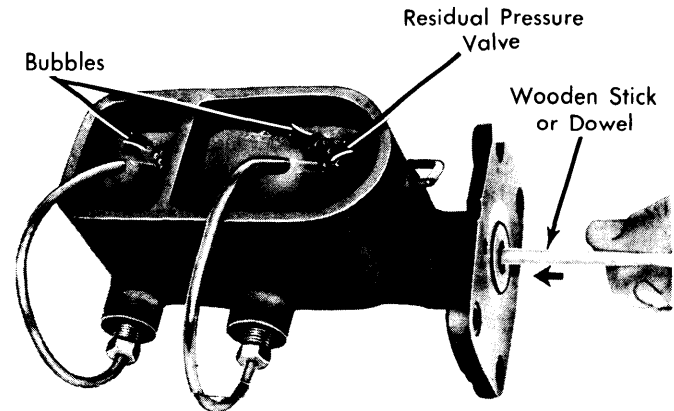

Fig. 1 Bleeding Master Cylinder (Bleeding Tubes Installed)
2) Place master cylinder level in a vise. Attach bleeding tubes to cylinder. Fill reservoirs with fluid so that ends of tubes are covered (see Fig. 1). Tubes attached to disc brake outlets must have residual pressure valves installed over ends. This will keep tubes from siphoning.